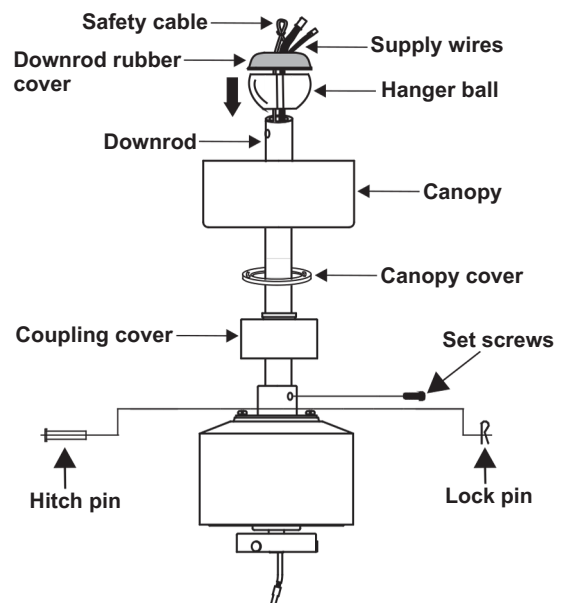

Figure 8
6. Route wires and safety cable exiting from the top of the fan motor through the coupling cover, canopy cover and canopy and then through the ball/downrod. (Fig. 8)
7. Align the holes at the bottom of the downrod with the holes in the collar on top of the motor housing. Carefully insert the hitch pin through the holes in the collar and downrod. Be careful not to jam the pin against the wiring inside the downrod. Insert the lock pin through the hole near the end of the hitch pin until it snaps into its locked position. (Fig. 8)
9. Carefully reinstall the hanger ball back onto the downrod with cross pin and set screw. Place downrod rubber cover onto the hanger ball. (Fig. 8)